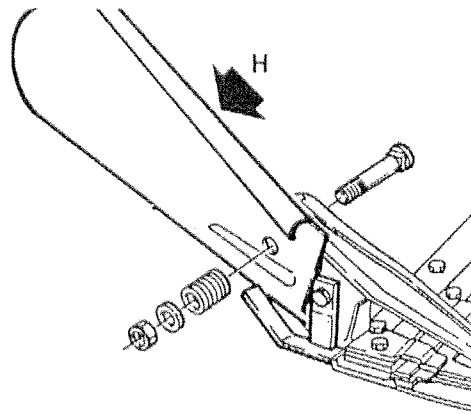

Fig. 13
- Fit the move guide (H, Fig. 13) to the outhter shoe.